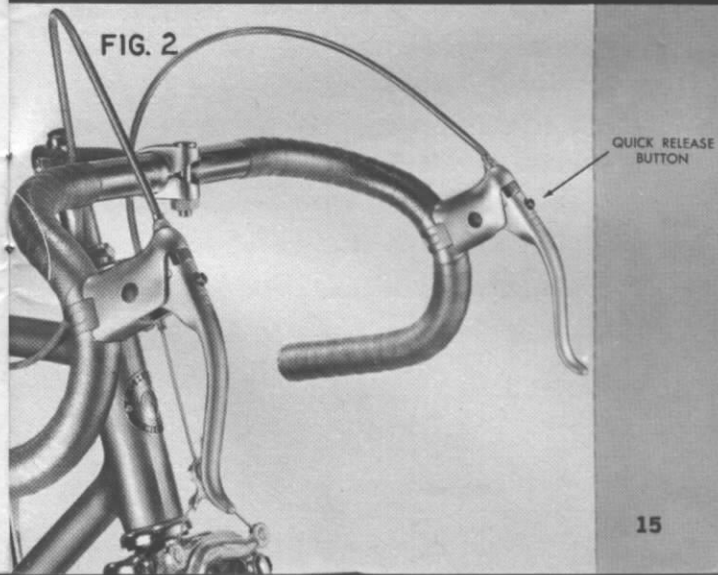

FIG. 2
- A. Shift front changer to the small sprocket. If there is difficulty in doing this, or if the chain shifts over and off the sprocket, adjust the low gear adjusting screw until the chain guide is centered over the sprocket (See Fig. 2). In this position, the handle should be all the way forward and the cable should be almost taut. If the cable has stretched readjust as outlined in section 3.
- B. Shift front changer to high gear (large sprocket). If chain has a tendency to overrun the sprocket or does not quite climb on, adjust by turning high gear adjusting screw as needed. (See Fig. 2.)
A. Shift front changer to the small sprocket. If there is difficulty in doing this, or if the chain shifts over and off the sprocket, adjust the low gear adjusting screw until the chain guide is centered over the sprocket (See Fig. 2). In this position, the handle should be all the way forward and the cable should be almost taut. If the cable has stretched readjust as outlined in section 3.
B. Shift front changer to high gear (large sprocket). If chain has a tendency to overrun the sprocket or does not quite climb on, adjust by turning high gear adjusting screw as needed. (See Fig. 2.)
5. Keep hand-lever clamps tight so assembly is securely fastened to handlebar. (See Fig. 2.)
On drop handlebar models the hand brake levers have a built-in quick release mechanism. This feature makes possible the removal of the wheels without scuffing the tires on the brake shoes or taking the brake out of adjustment. Before removing the wheel, press the red button on the hand lever (see Fig. 2) allowing the brake arms to open. After replacing the wheel grip the handlever, as in braking in order to place the handlever and brake arms in normal operating position.